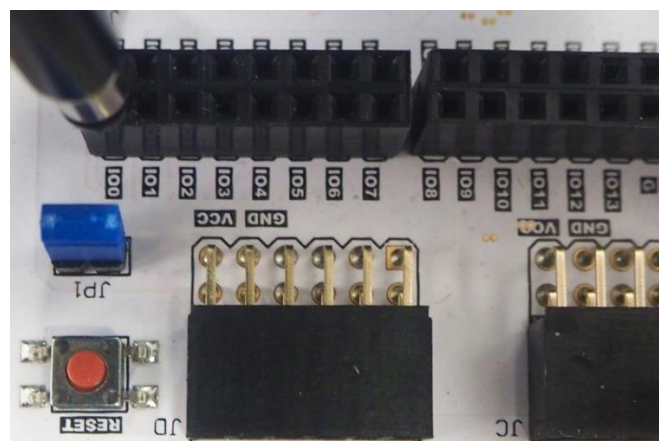

Figure 5: IO0 pin location for oscilloscope probe
8. Connect an EM probe and a passive probe to the oscilloscope. Connect the passive probe to the pin IO0 as the Trigger signal for data capturing, as shown in Figure 5. Set the switching threshold for the Trigger signal to 1.65V since the Trigger signal is operating within 3.3V.